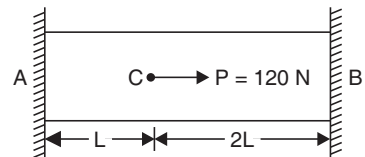

FIGURE 8.36
37. A straight bar is fixed at the edges A and B as shown in Fig. 8.36. Its elastic modulus is E and cross-section is A . There is a load $P = 120$ N acting at C. Determine the reactions at the ends